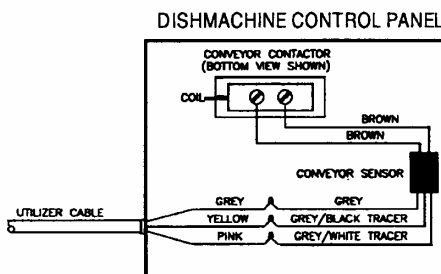

Figure 18. Conveyor Contactor Connections
11. Locate the conveyor contactor. Locate the coil on conveyor contactor (See Figure 18). Place the conveyor sensor next to conveyor contactor inside dishmachine control panel.